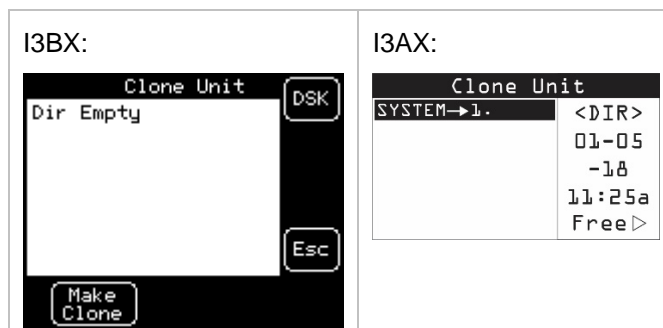

Figure 17-2 – Clone Unit Menu before Cloning
- a. In the above Figure17-2, F3 and F4 are inactive in the Clone Unit.